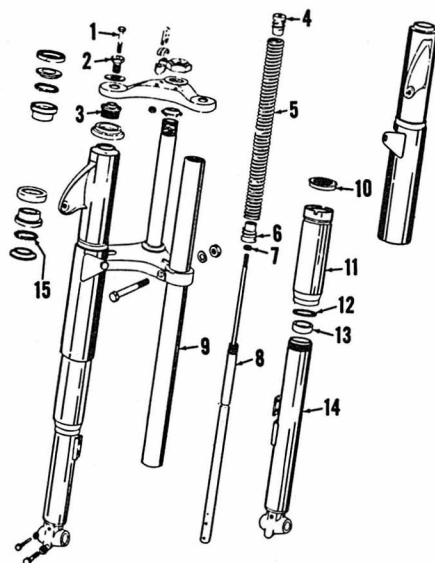
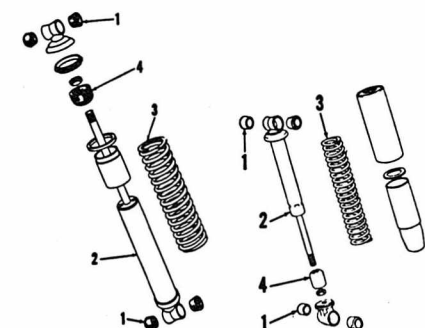

Fig. OS1-3—Exploded view of front suspension system.
Fig. OS1-4 — Exploded view of the two types of rear suspension units used.
**SUSPENSION.** Refer to Fig. OS1-3 for exploded view of front suspension unit. Rear suspension unit is shown in Fig. OS1-4.